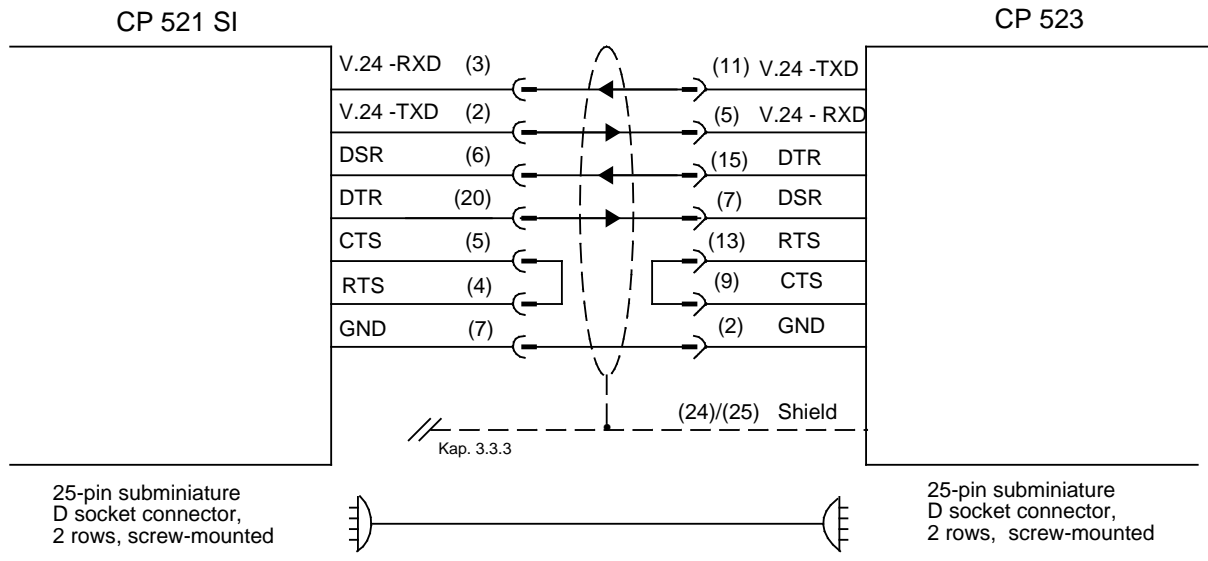

Figure D-1. Terminal Diagram CP 521 SI - CP 523 (RS-232C/V.24 Interface with Handshaking)
Each connecting cable listed in the form is followed by the number of a terminal diagram in this manual for the particular cable. Typical connections not shown in preceding sections of the manual have been added on the following pages of this appendix (Figures D-1 to D-8).
- Connecting cable No. 9AB4173- ____ - ____ Cable for connecting the CP 521 SI to a **CP 523, RS-232C (V.24)** (Figure D-1)